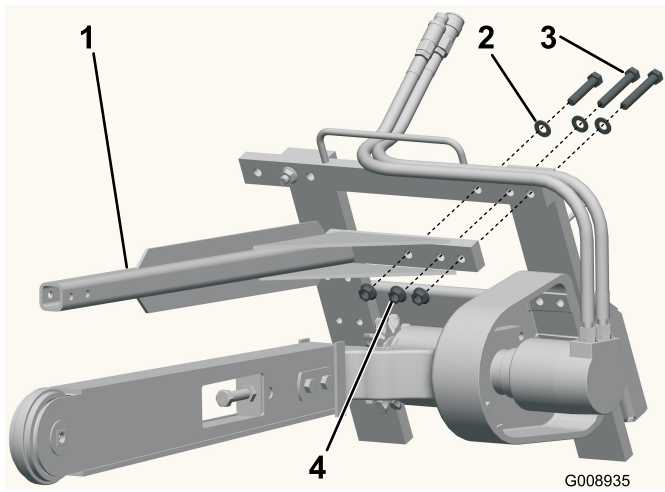

Figure 4
1. Remove the 3 bolts, washers, and flange nuts from the upper left corner of the trencher frame (Figure 4).
2. Using the fasteners removed previously, install the trencher safety bar as illustrated in Figure 4.